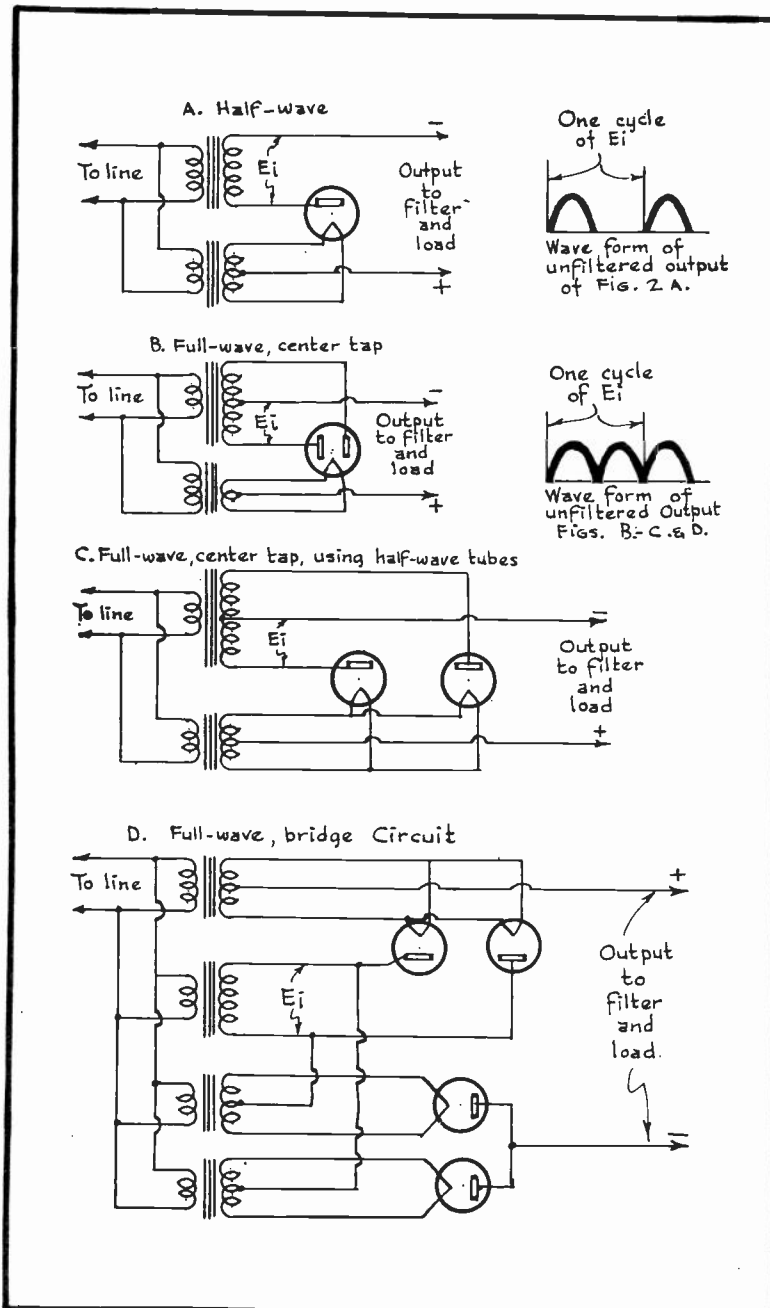

FIG. 2
THE CIRCUITS OF FIG. 2 IN THE PRESENT LESSON SHOWS YOU A NUMBER OF TYPICAL RECTIFYING SYSTEMS FOR A SINGLE-PHASE LINE. THE FIRST CIRCUIT (A) IS NOT OFTEN USED IN COMMERCIAL TRANSMITTERS BECAUSE OF THE DIFFICULTY OF FILTERING THE HALF-WAVE OUTPUT. HOWEVER, IT DOES HAVE ITS APPLICATION IN THE AMATEUR TRANSMITTER WHERE COST IS A LIMITING FACTOR. THE FAMILIAR CIRCUIT OF FIG. 2B IS USED EXTENSIVELY IN SUPPLYING THE SPEECH INPUT AMPLIFIERS OF THE BROADCAST TRANSMITTER, BUT IS LIMITED TO THIS SERVICE BECAUSE THE FULL-WAVE RECTIFIER TUBES COMMERCIALY AVAILABLE ARE NOT CAPABLE OF MEETING THE HIGH CURRENT AND VOLTAGE REQUIREMENTS OF THE TRANSMITTER.